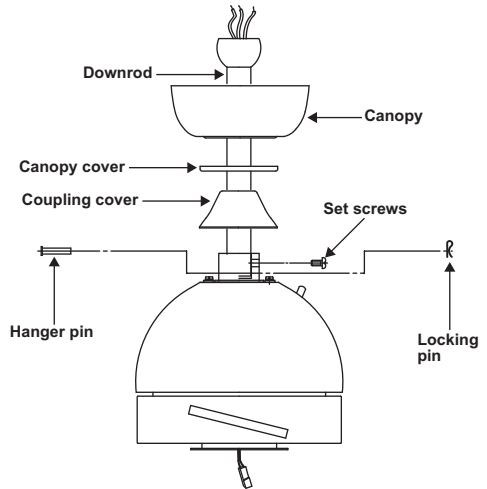

Figure 7
Step 6. Route wires exiting from the top of the fan motor through the coupling cover, canopy cover and canopy, then through the ball/downrod. (Fig. 7)
Step 7. Align the holes at the bottom of the downrod with the holes in the collar on top of the motor housing (Fig. 7). Carefully insert the hanger pin through the holes in the collar and downrod. Be careful not to jam the pin against the wiring inside the downrod. Insert the locking pin through the hole near the end of the hanger pin until it snaps into its locked position, as noted in the circle inset of Fig. 7.
Step 8. Tighten two set screws on top of the fan motor firmly. (Fig. 7)